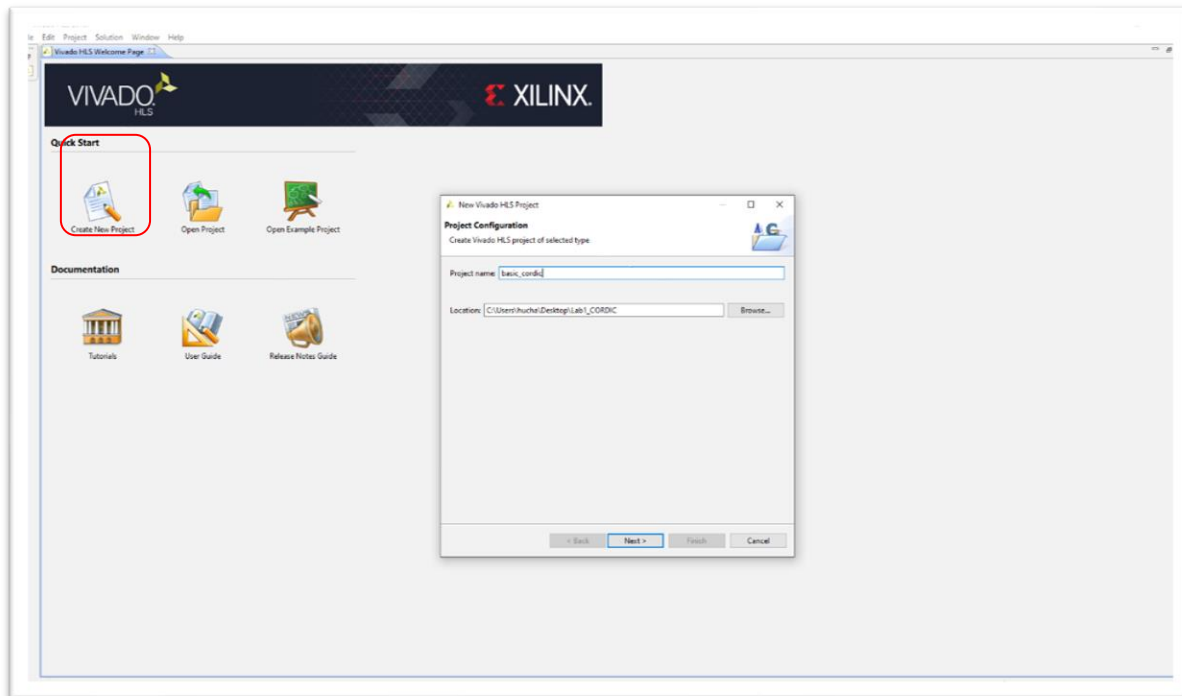

Figure 2: Create a new project in Vivado HLS.
- b) Launch **Vivado HLS 2018.3**. Click on “Create New Project” to create a new project. Enter the project name with your preference on the welcome page, as shown in Figure 2. Then, click on “**Next**”.